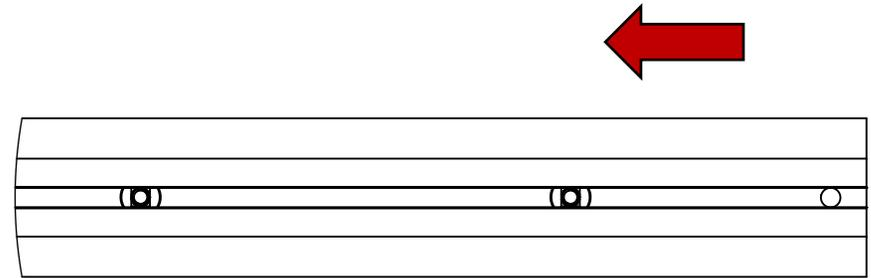

Figure 8
4. **Insert the Carriage Bolts into the slotted Crossbar.** Examine the Crossbars (Item No. 1) and notice that a slot runs down the length of each Crossbar. Insert (2) 1" Carriage Bolts (Item No. 9) into each end of each Crossbar – a total of 8 times. For the moment, arrange the Carriage Bolts about 9" apart as shown in Figure 8.